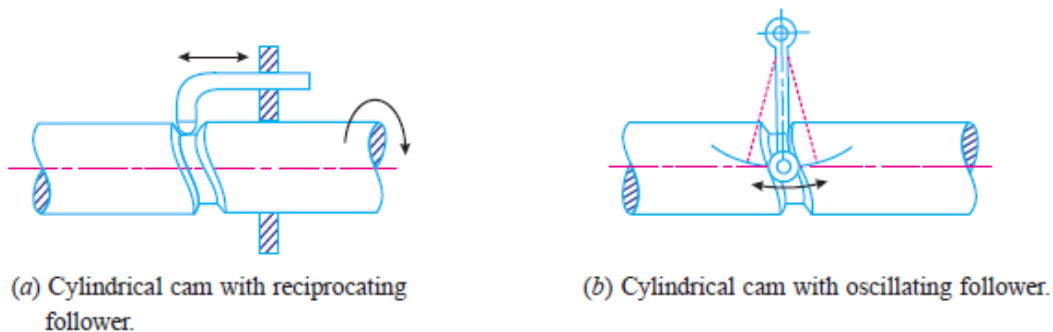

Fig. 2. Cylindrical cam.
2. Cylindrical cam. In cylindrical cams, the follower reciprocates or oscillates in a direction parallel to the cam axis. The follower rides in a groove at its cylindrical surface. A cylindrical grooved cam with a reciprocating and an oscillating follower is shown in Fig. 2 (a) and (b) respectively.